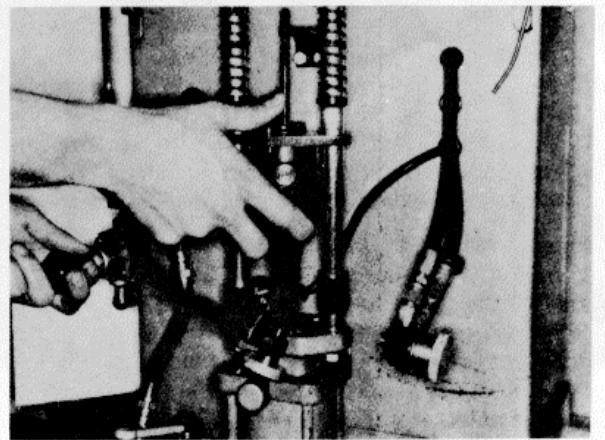

Figure 16H-91. Positioning the Assembly in the Test Stand
12. Check the air pressure gauge at the top of the hydraulic reservoir as originally established with the load test cell. Close the hydraulic valve to lock the injector in the clamped position. Connect the inlet and drain connectors to the injector, Figure 16H-92.